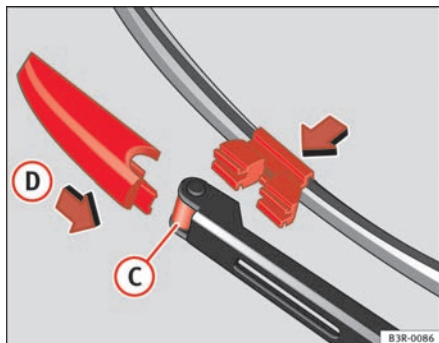

Fig. 170 Fitting the wiper blade
- Fit the new wiper blade into the mounting on the wiper arm ⇒ fig. 170 **C**.